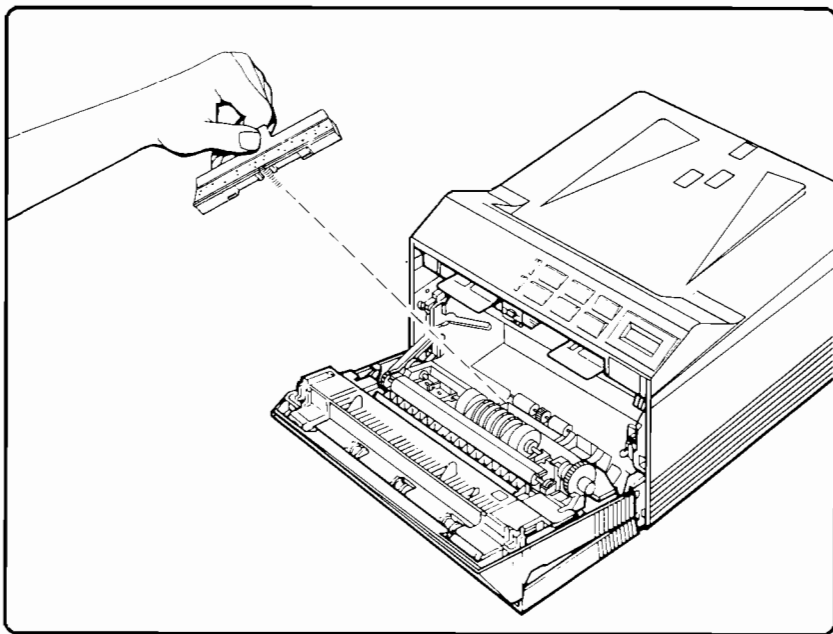

Figure 4-5. Inspecting the Separation Pad
2. Remove the Separation Pad (with its spring attached) by grasping the clear plastic strip and firmly pulling straight up (see Figure 4-5).